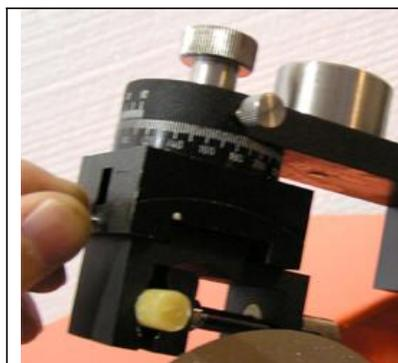

Fig. 6a
- (10) Gently put the sample down to the cutting blade after turning on the saw (Fig. 6a)
- (11) Please increase or decrease cutting speed gradually during operation